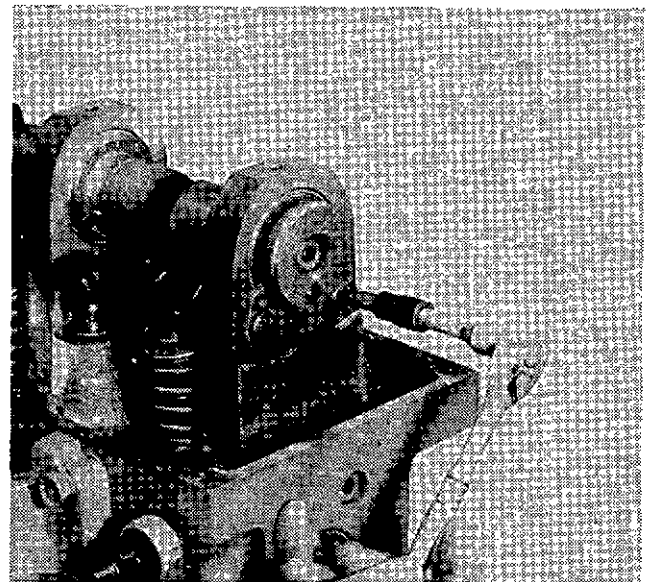

FIG. 38 Removing Camshaft Rear Thrust Plate
6. Remove the camshaft rear thrust plate (Fig. 38) (2 screws), and remove the camshaft.